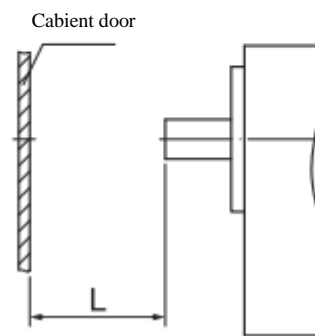

Fig. 21: Disconnecter operated outside the cabinet
(1) As illustrated in Fig. 21, fix and install the disconnecter on the mounting plate in the disconnecter cabinet vertically, turn the switch to the "O" position, and then measure the distance L from the top of the square shaft of the disconnecter to the inner surface of the cabinet door.